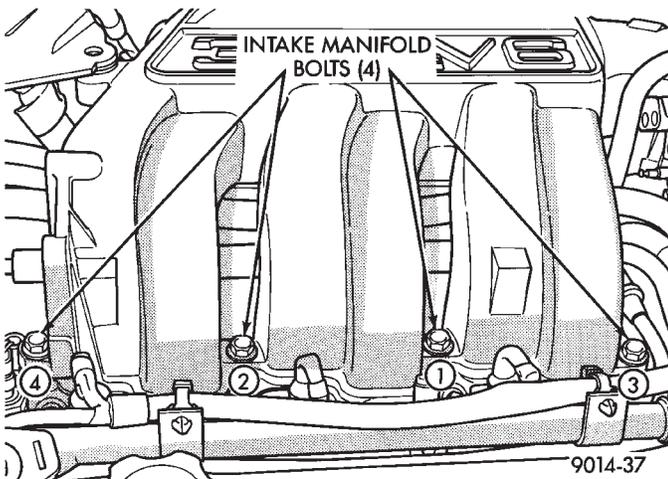

Fig. 9 Intake Manifold Bolts
- (14) Remove intake manifold bolts and rotate manifold back over rear valve cover (Fig. 9).
(16) Torque intake manifold bolts to 28 N•m (250 in. lbs.) following torque sequence in (Fig. 9).